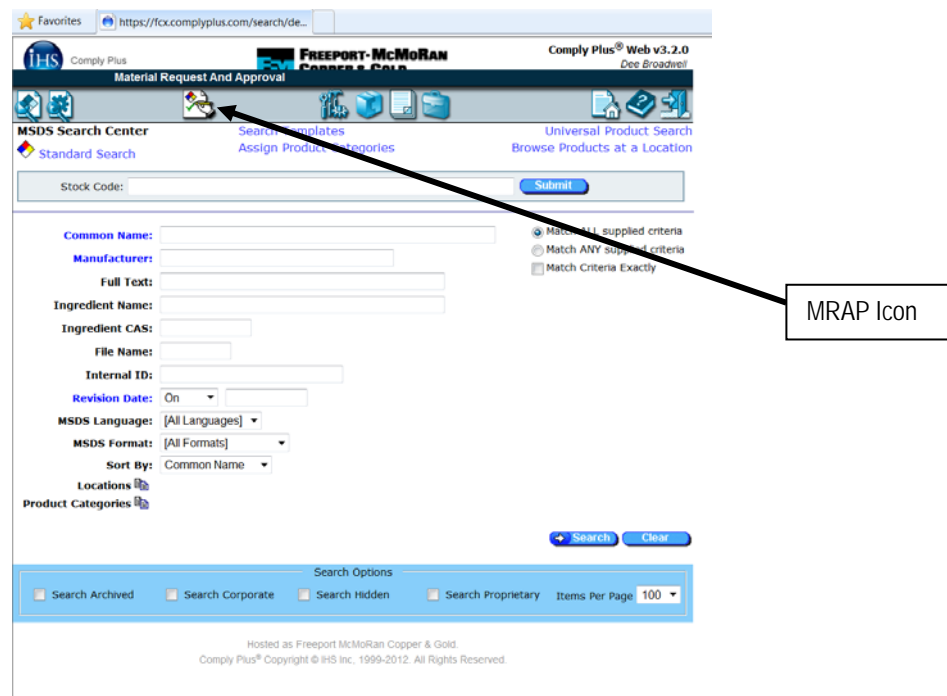

Figure 6
1. On the Search Center page, click on the Material Request & Approval (MRAP) icon (see Figure 6).